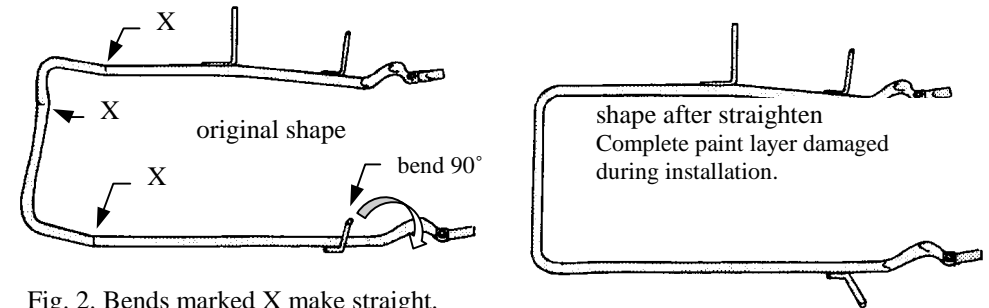

Fig. 2. Bends marked X make straight.
2. Remove the spare wheel support bracket. Make the depressions straight. See figure 2.
3. Left side bracket (pos. 4) put on the outsider of the left chassis member and fix through holes pos. A by bolts M12x1.25x35mm (pos. 11). Right side bracket (pos. 5) put on inside of the right chassis member and fix through holes pos. B by bolts M12x1.25x35mm (pos. 11).